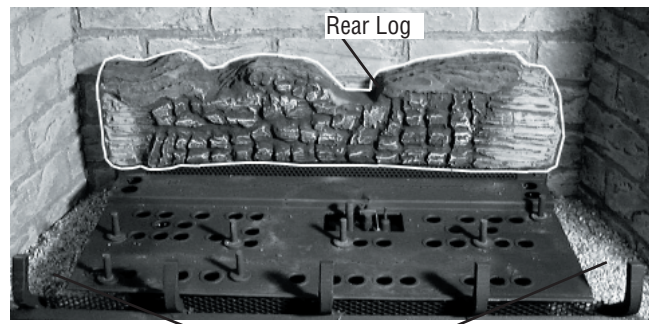

Figure 29
1. Place some vermiculite around the burner as shown in Figure 29 (the entire bag of vermiculite will NOT be used).
2. Place the Rear Log onto the 2 corresponding locating pins at the back of the firebox as shown in Figure 29.